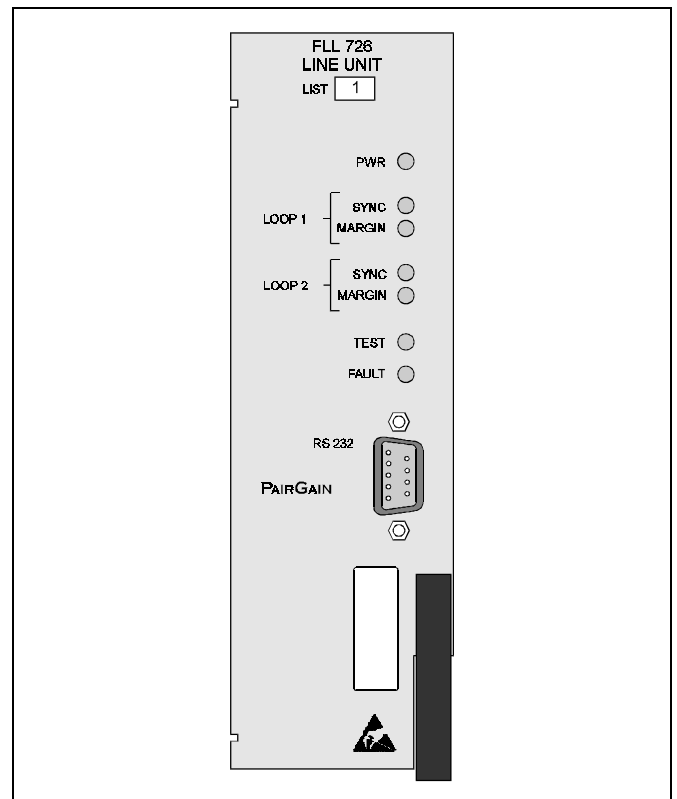

Figure 1. FLL-726 COT Line Unit, List 1, Front Panel. The PairGain FLL-726 is the Central Office end of a PG-Flex subscriber carrier system.
6.03 The RS-232 Maintenance Port located on the front of the Line Unit (see Figure 1) enables the technician to configure and test the PG-Flex system using an ASCII terminal (see Section 8). A terminal is not required for normal installation and operation of PG-Flex, but may facilitate troubleshooting procedures on the HDSL line.
7.01 The front panel of the FLL-726 COT Line Unit contains the following indicators and connector (see Figure 1):